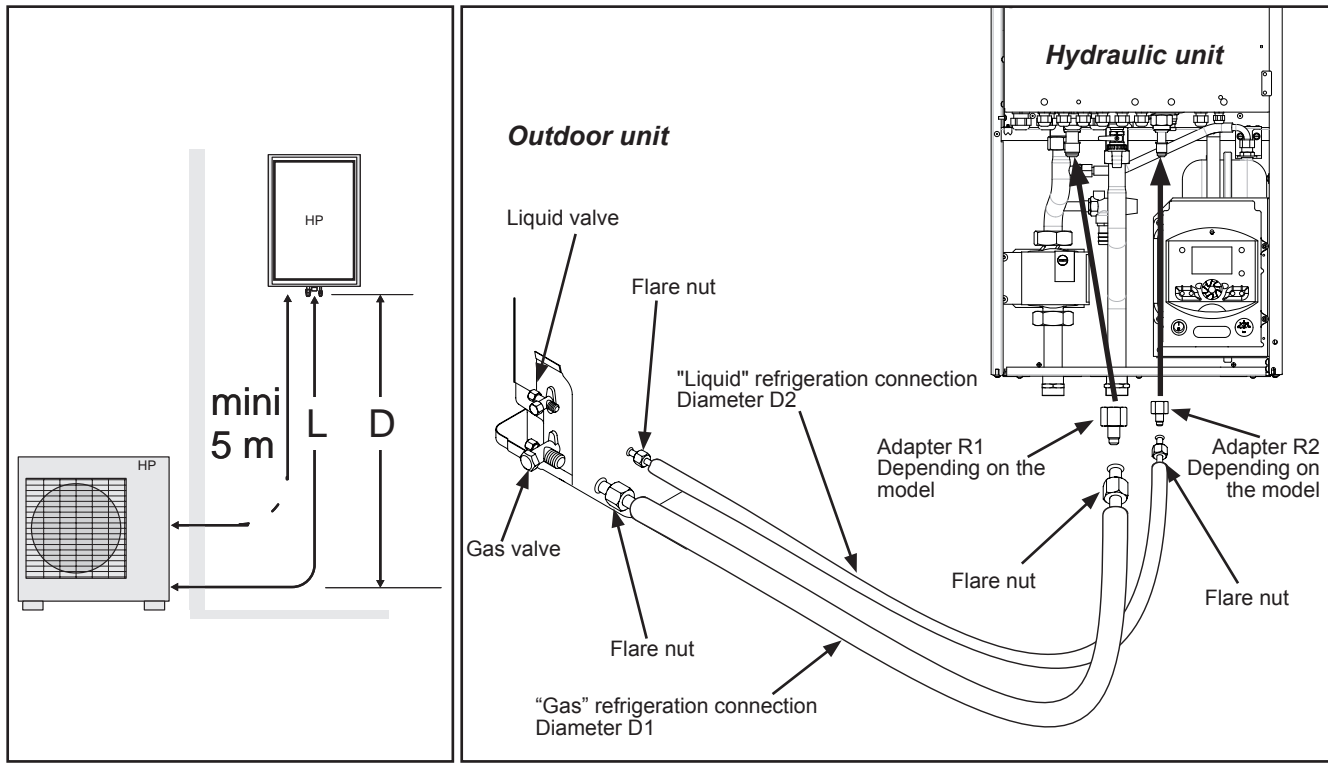

figure 15 - Connecting the flared connections (Pipe diameters and permissible lengths)
Comply with the pipe diameters and the permitted pipe lengths (figure 15, page 18).
- Depending on the case, connect an adapter (reducer) 1/4" - 3/8" or 1/2" - 5/8" (see figure 15).
The charge in the outdoor units corresponds to the maximum distances between the outdoor unit and the hydraulic unit defined in figure 15. If the distances are greater, an additional charge of R410A is required. The additional charge depends on the distance between the outdoor unit and the hydraulic unit for each type of appliance. The additional charge of R410A must necessarily be made by an approved refrigeration engineer.